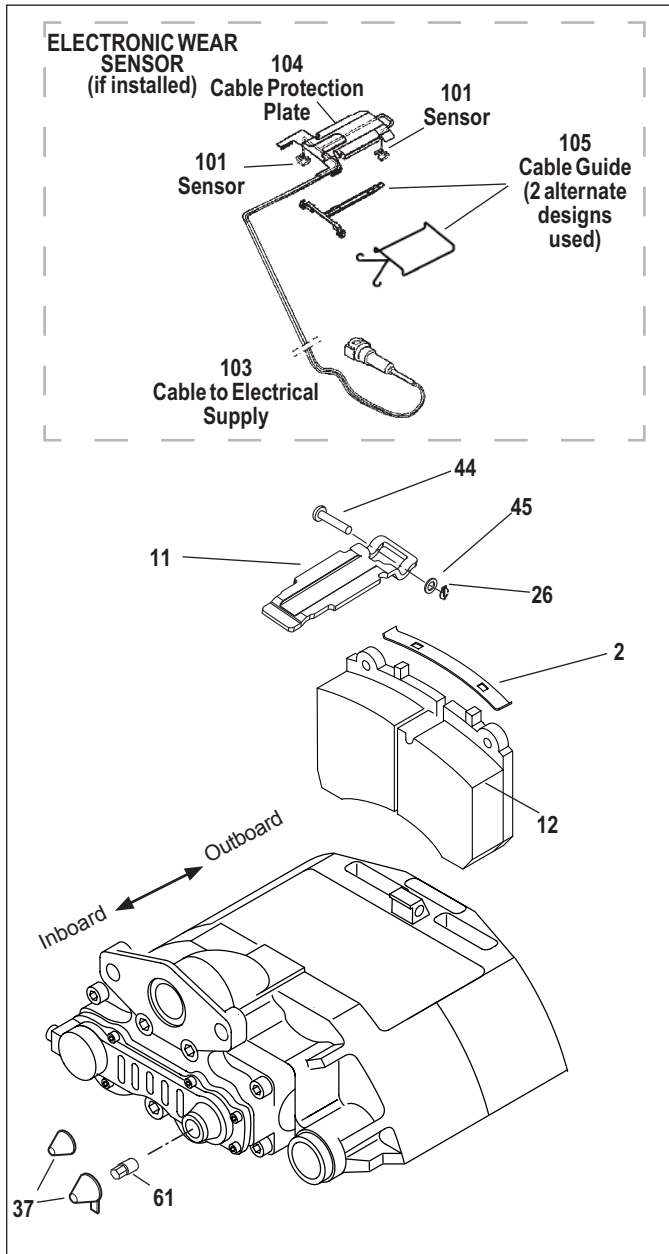

Figure 33 – Pad Replacement
5.2.3 If the air disc brake is equipped with an electronic wear sensor indicator (see top of Figure 33), remove and retain the mounting hardware for the cable protection plate. The cable protection plate can then be set aside while servicing the pads. Note the position of the sensors in the brake pad channels, and carefully remove them. In most cases you do not need to release the cable connector in order to move the sensors away from the pad installation work area. Inspect the wear sensors – replace if damaged or abraded.